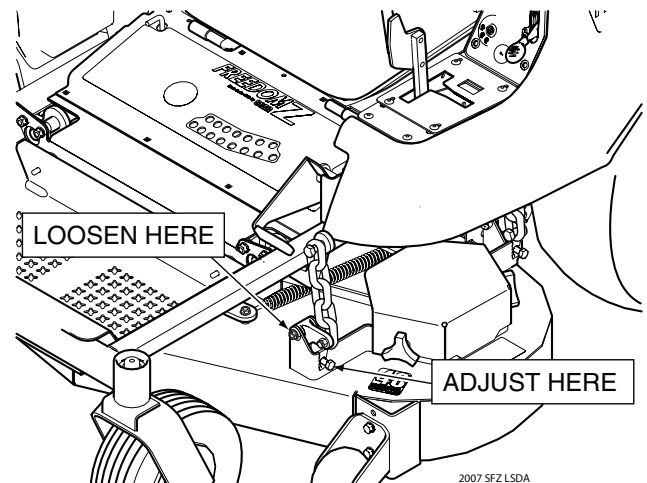

Figure 6-5. Cutter Deck Pitch Adjustment
1. Loosen the elastic stop nuts securing the deck level links on the front of the cutter deck on both sides. See Figure 6-5 and 6-6.